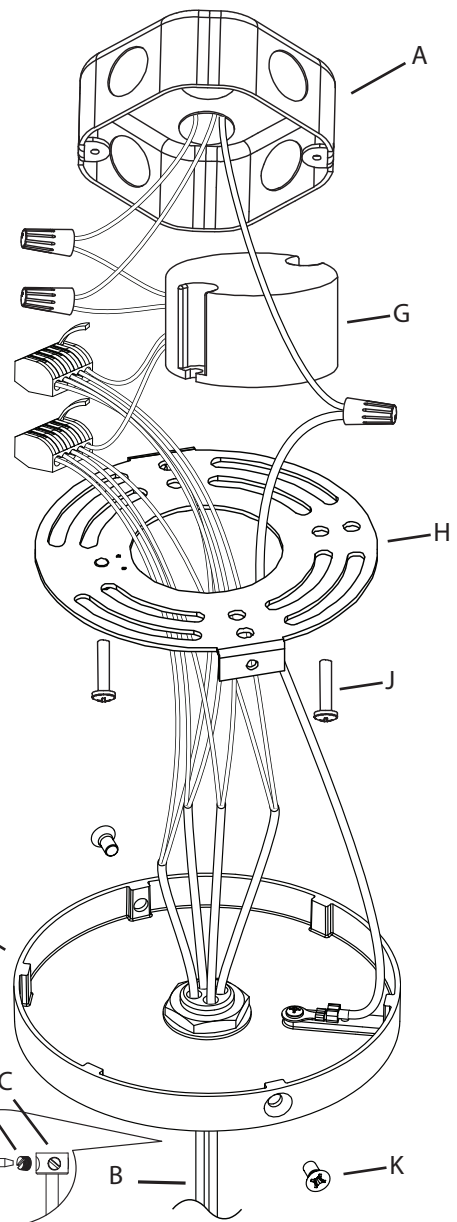

Fig. 1
3. Make sure spreader (D) is level by adjusting cord stops (E).
4. Reserve extra cord (B) in the canopy (F). If field shortening of the cords is necessary see Appendix A.
5. Make appropriate electrical connections using wire nuts and lever nuts, as seen in Fig. 1:
- a. Connect the LED driver's (G) live wire (black) to the live outlet box wire.
- b. Connect the LED driver's (G) neutral wire (white) to the neutral outlet box wire.
- c. Connect the fixture's ground wire (green or uncoated) to the ground outlet box wire. If no ground is present in outlet box, connect fixture's ground wire to the mounting plate (H) using the green screw (included).
- d. Carefully place connections and LED driver (G) in outlet box (A).
6. Attach the mounting plate (H) to the outlet box (A), secure with outlet box screws (J).
7. Install the canopy (F) to the mounting plate and secure with Screws (K) using the Screw Driver provided.